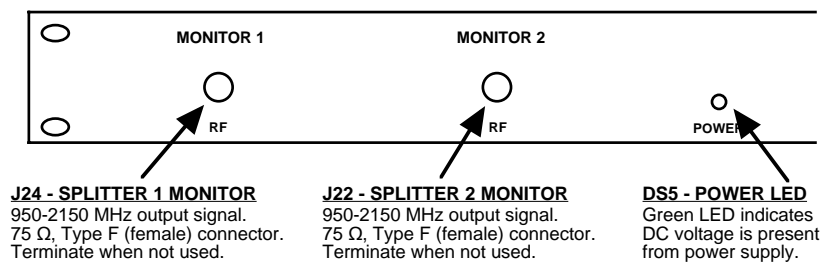

FIGURE 2.2 1584-29S Front Panel
Figure 2.2 shows the front panel monitors and indicators.
2. Connect 90 - 260 VAC, 47 - 63 Hz to AC on the back panel and observe that the AC POWER LED is lit on the front panel (Figure 2.2).
3. Monitor RF signals on the front panel monitors to insure proper signals (Figure 2.2).